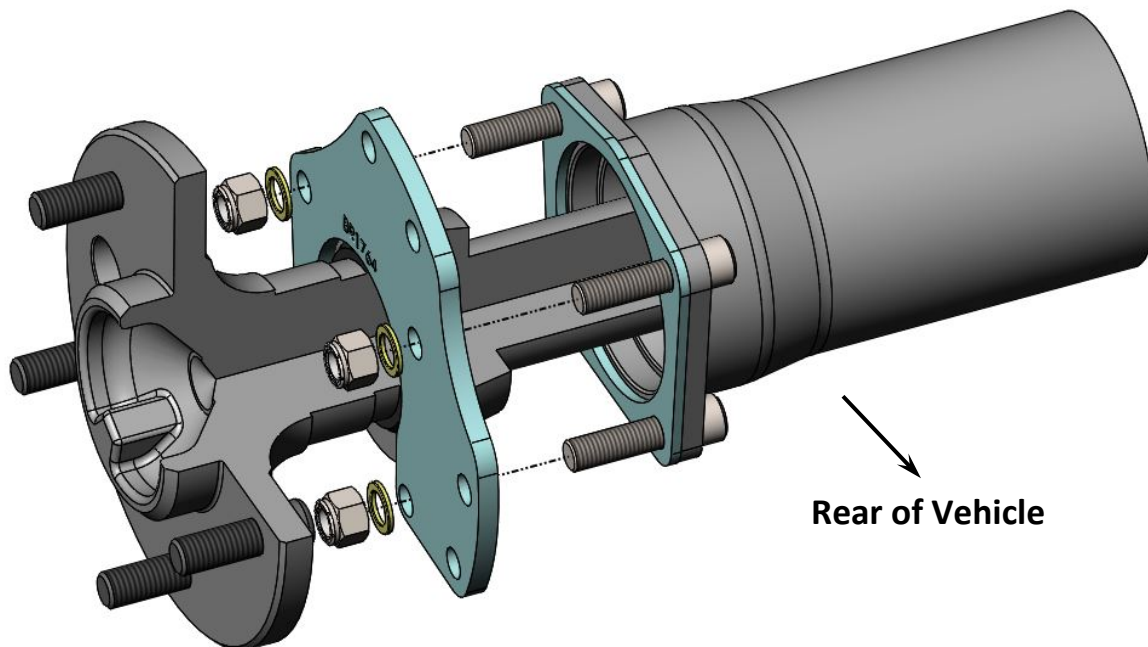

Figure 4 – Axle Re-installed w/Primary Caliper Mounting Bracket
- DB1764BR** – Install both of the Primary Caliper Mounting Brackets so the calipers will mount towards the rear of the vehicle. Figure 4 below shows the bracket mounted on the driver side.